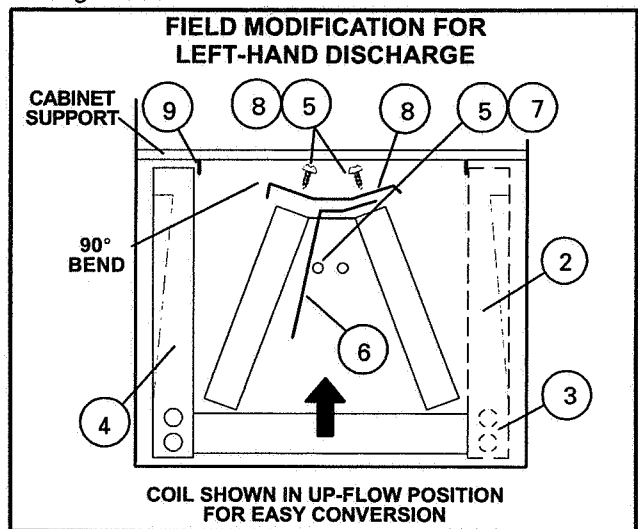

FIGURE 4
- 5 - Remove screws from top cap. Remove horizontal drip shield screw located in the center of the back coil end seal. See figure 4.
8 - Rotate top cap 180° front to back and align with unused screw holes. Holes must align with front and back coil end plates. Note that top cap has a 45° bend on one side and 90° bend on the other. **The 90° bend must be on the same side as the horizontal drain pan.** See figures 4 and 5.
9 - From the upflow position, flip cabinet 90° to the left and set into place. Replace coil assembly. Secure coil in place by bending down tab on cabinet support rail. See figures 4 and 6.